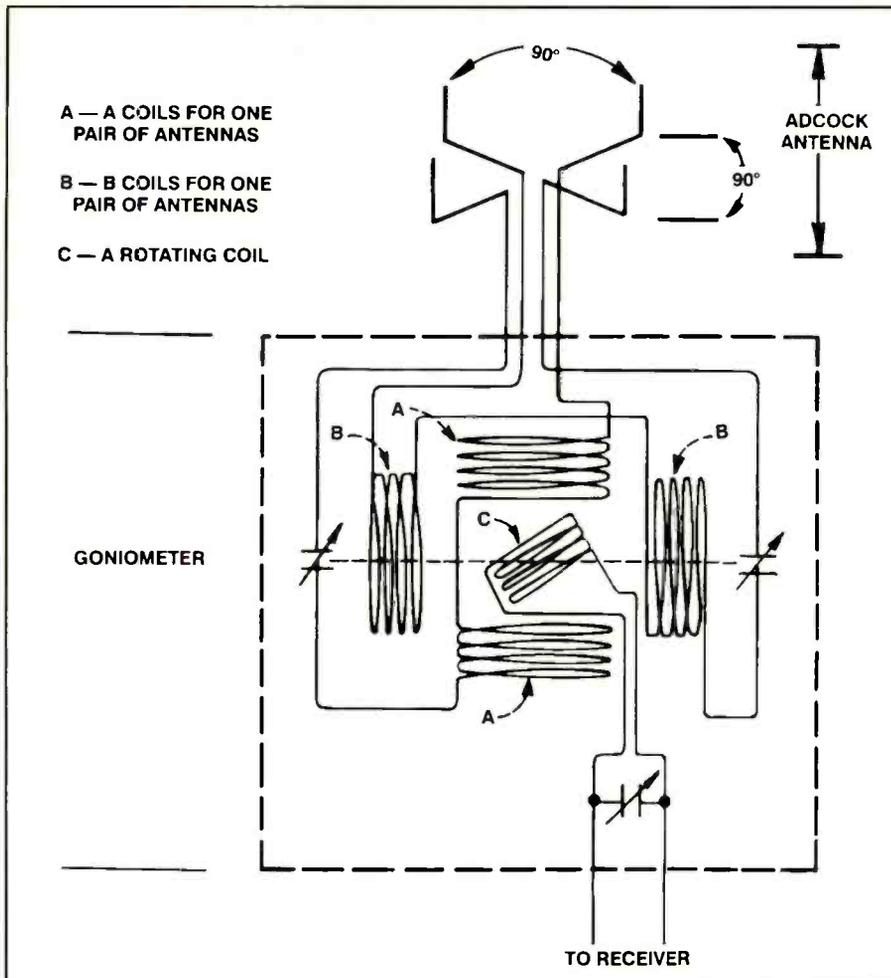

Figure 3. This shows how a goniometer is used with an Adcock antenna.
5. *Answer: the goniometer is used to select the strongest signal.* Figure 3 shows how a goniometer is used with an Adcock antenna. The inner coil is rotated to receive the strongest signal. That has the same effect as rotating the antenna for the strongest signal.